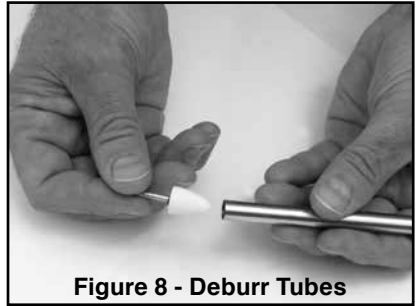

Figure 8 - Deburr Tubes
- The inside and outside of the tubes must be deburred after cutting. Use the stone provided for this purpose. Make sure there are no sharp edges on either tube (inside and outside) that will damage the cables. (See Figure 8.)